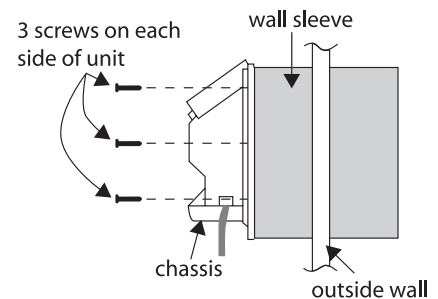

Figure 15. Secure chassis to wall sleeve
- Secure the chassis to the wall sleeve using three screws on each side of the chassis to ensure a proper seal between the chassis and the wall sleeve. The screws are supplied in a plastic bag which is attached to the power cord. See Figure 15.